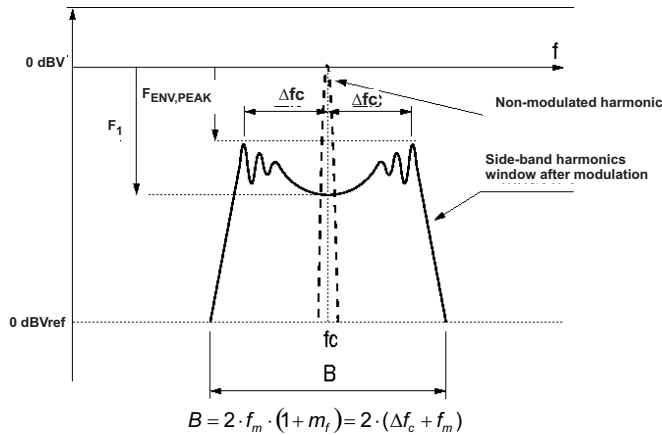
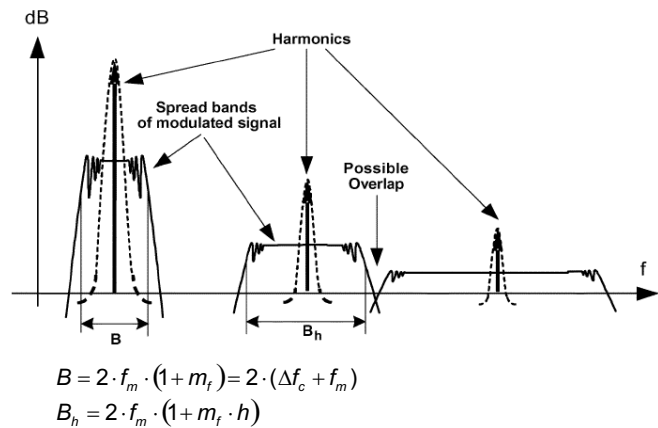

Figure 21. Spectrum Of A Frequency Modulated Sin. Wave With Sinusoidal Variation In Time
Figure 22. Spread Bands Of Harmonics In Modulated Square Signals ⁽¹⁾
(1) Spectrum illustrations and formulae (Figure 21 and Figure 22) copyright IEEE TRANSACTIONS ON ELECTROMAGNETIC COMPATIBILITY, VOL. 47, NO.3, AUGUST 2005. See References Section for full citation.